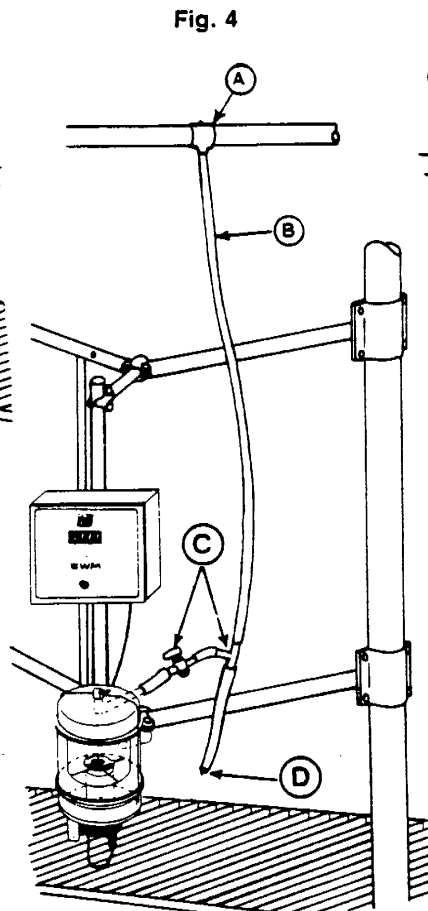

Fig. 4
- If C.I.P. washer is not used,** install a clamp-on-nipple on the underside of a sanitary wash line to the immediate right of the Flo-Meter. (See A, Fig. 4) Attach to the nipple a  $\frac{5}{8}$ " ID hose of sufficient length to reach milk inlet on Flo-Meter. (See B, Fig. 4)
- Install the 711012 valve and 256946 plastic tee in this line as described above. (See C, Fig. 4)
- Open 711012 valve for washing and connect line D to milk inlet of Meter. (Fig. 4)
- Insert a 420530 plug in end of hose while milking. (See D, Fig. 4)
2. **If C.I.P. washers are not used**, attach the milker unit hose to the milk inlet of the meter. Insert a 420530 plug in the end of the hose while milking. (See D, Fig. 4)